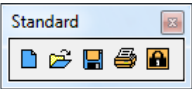

Fig. 328 – the Standard icon bar
- from the main **File** menu select the option **Print project** or click the **Print**  icon on the **Standard** icon bar (Fig. 328);